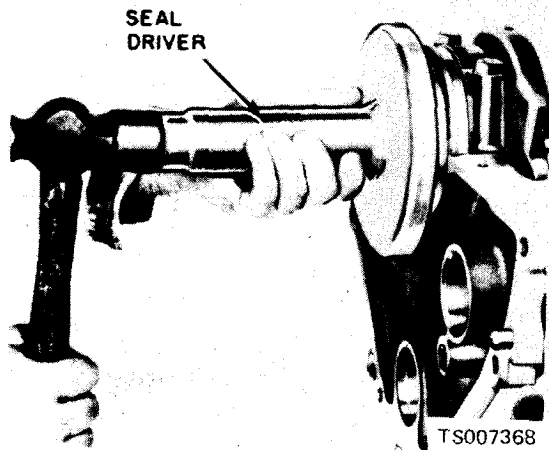

Figure 6-39. Installing Crankshaft Rear Seal.
(16) Coat a new crankshaft rear oil seal with oil and install it (fig. 6-39). Inspect the seal to be sure it was not damaged during installation.